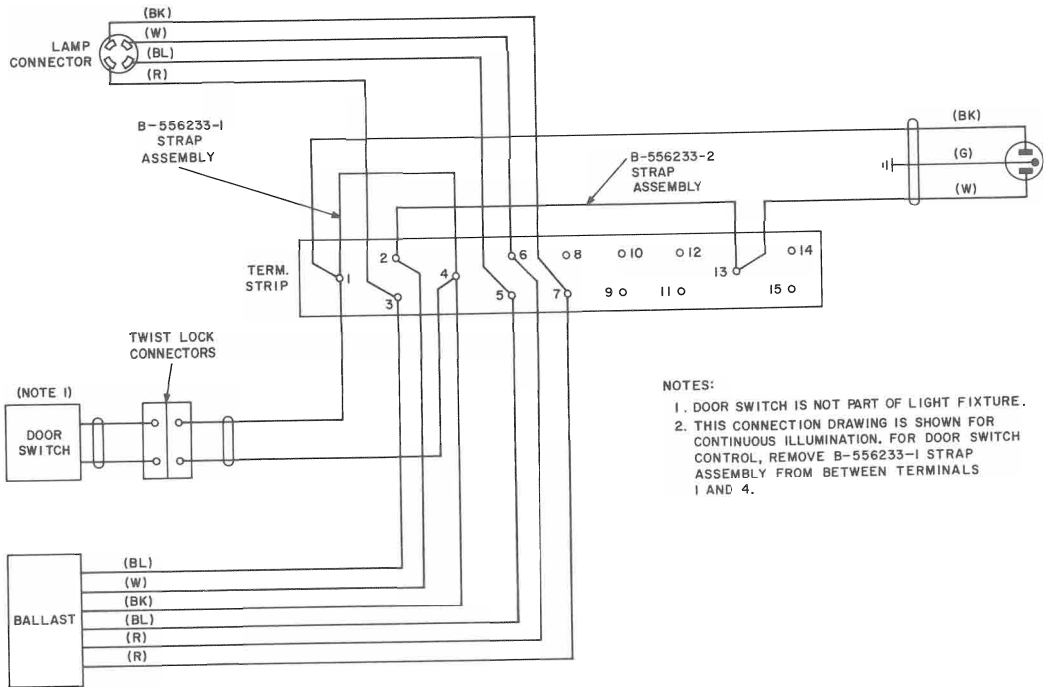

Fig. 3—Connections For List 2 Unit
- (B) List 2 unit consists of the following basic items:
- (c) See Fig. 3 for List 2 unit connections.